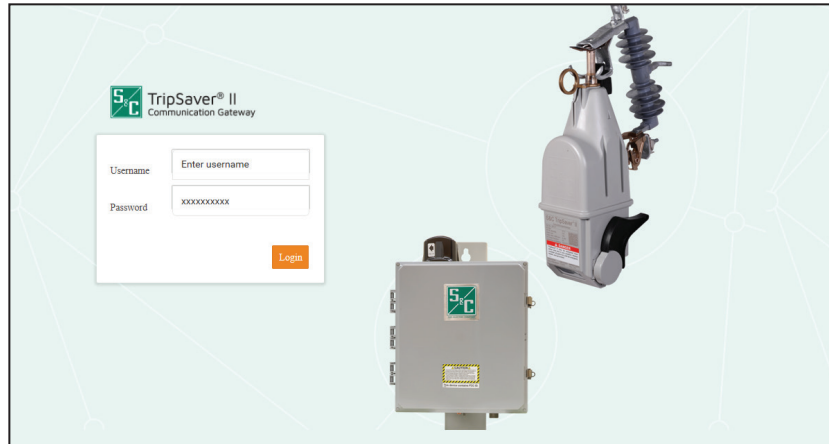

Figure 5. The Communications Gateway *Login* screen.
STEP 4. With the CAT5 cable attached to communications gateway Ethernet Port 1, launch a Web browser on the PC. Within the URL address line, type in the communications gateway default IP address of 192.168.1.1 and press the <Return> key. (Browser versions supported include Google Chrome and Internet Explorer.) The *Login* screen will open with a username and password challenge. See Figure 5. When logging in for the first time, users will be sent to the *Profile* screen and be prompted to change the default password.